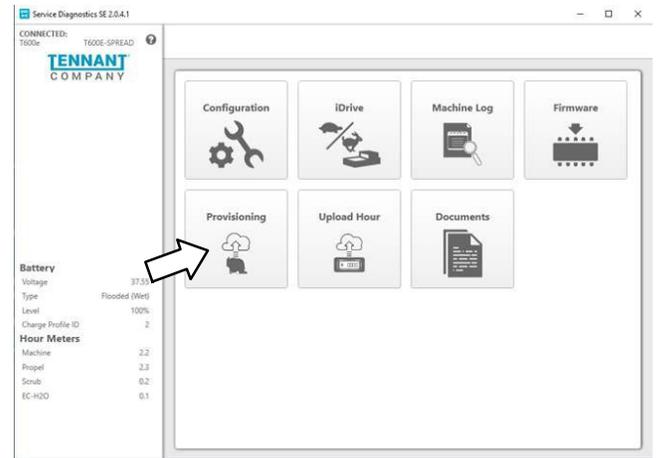

Fig. 15
- 10. Press the Provisioning button to register the machine's telemetry technology to cloud (Figure 15).